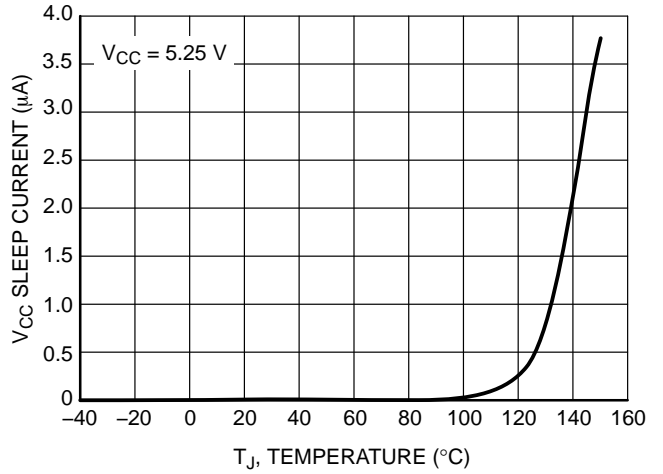

Figure 5.  $V_{CC}$  Sleep Supply Current vs. Temperature
6. For temperatures above  $85^{\circ}\text{C}$ , refer to Figure 5.
6. For temperatures above 85°C, refer to Figure 5.